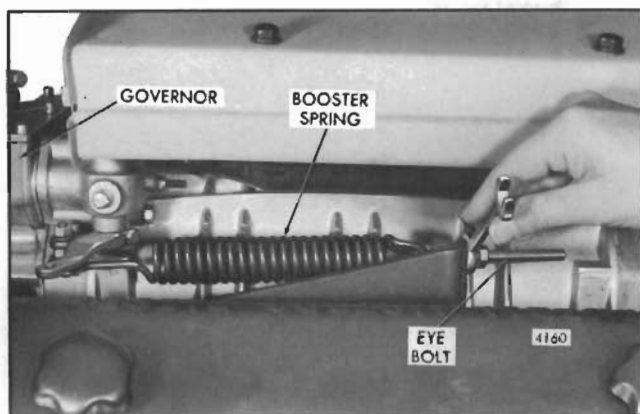

Fig. 9 - Adjusting Booster Spring
2. Refer to Fig. 9 and loosen the nut on the booster spring retaining bolt on the governor speed control lever. Loosen the lock nuts on the eye bolt at the opposite end of the spring.